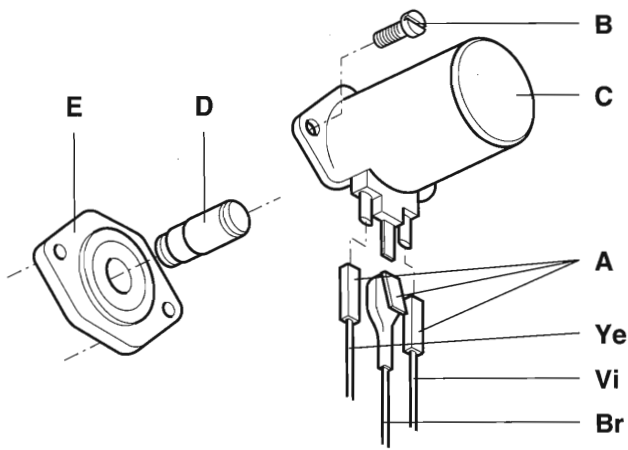

Figure 19
SECTION 10 : TO REPLACE THE SOLENOID ARMATURE AND COIL (R.H.S. of gas valve) (Figure 19)
- a. Ensure armature is replaced with the O.ring D in the correct position as shown in Figure 19.
- c. Ensure that the electrical connections are correctly replaced. (See Figure 19).